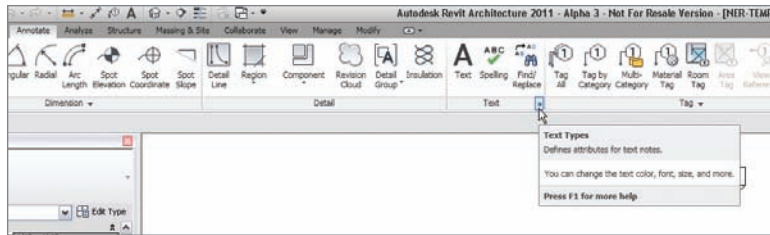

FIGURE 23.14 Clicking the down arrow in the Text panel
2. On the Text panel of the Annotate tab, click the down arrow in the lower-right corner of the panel, as shown in Figure 23.14.